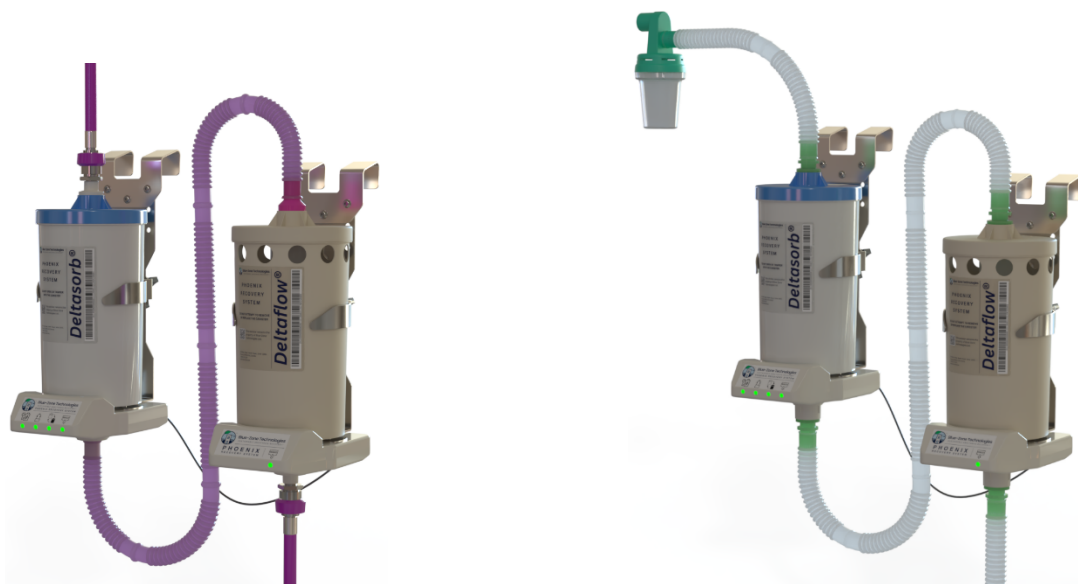

Figure 2. Active System Configuration
- Active System Configuration (figure 2):